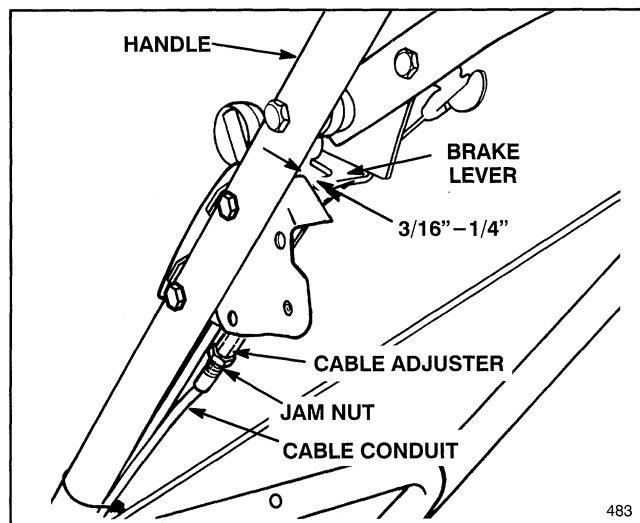

Figure 18
2. CHECK ADJUSTMENT (Fig. 18)—Move control bar toward handle until slack in wire is removed. Gap between brake lever and handle must be $3/16'' - 1/4''$. See step 3 for adjustment.
3. ADJUST CABLE CONDUIT (Fig. 18)—Loosen jam nut on brake cable. Insert $3/16'' - 1/4''$ object between brake lever and handle. Turn cable adjuster on brake cable until slack is removed. Then tighten nut.